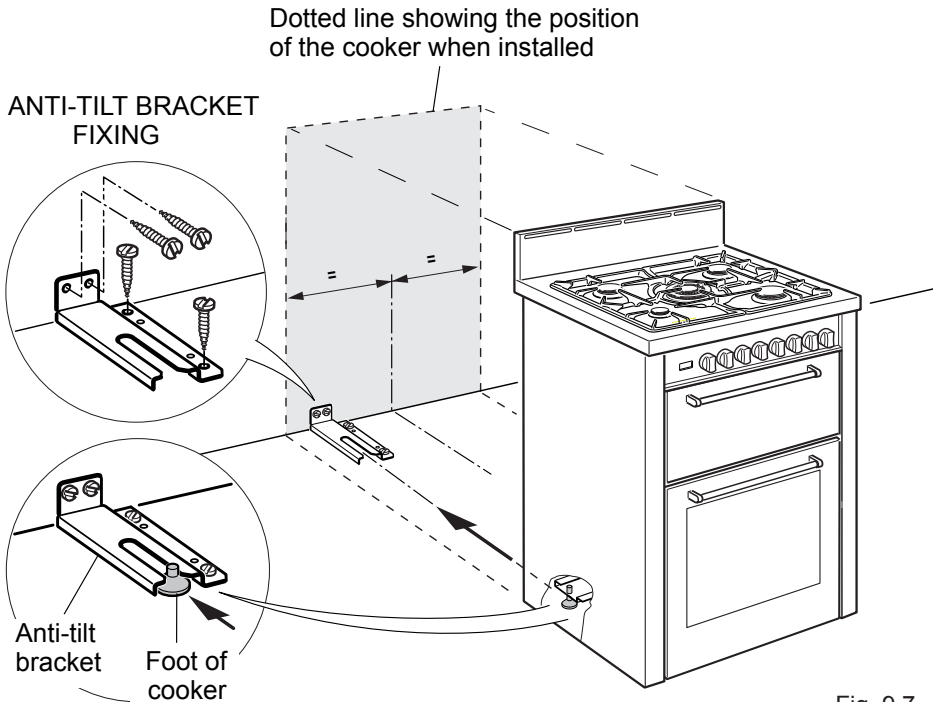

Fig. 9.7
1. After you have located where the cooker is to be positioned, mark on the wall and on the floor the place where the four screws of the anti-tilt bracket have to be fitted. Please follow the indications given in fig. 9.7.
2. Drill four 8mm diameter holes for the fixing screws (two in the wall and two in the floor—see fig. 9.7) and insert the plastic plugs supplied.
3. Attach the anti-tilt bracket to the floor and rear wall using the four screws supplied, as shown in fig. 9.7.
4. After attaching the anti-tilt bracket securely, slide the cooker into place. Ensure that the rear left foot slides under the bracket, as shown in fig. 9.7.